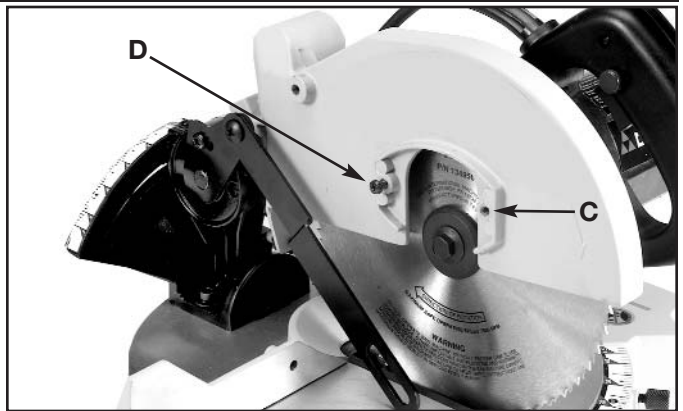

Fig. 5
1. Loosen screw (D) Fig. 5 and remove screw (C).